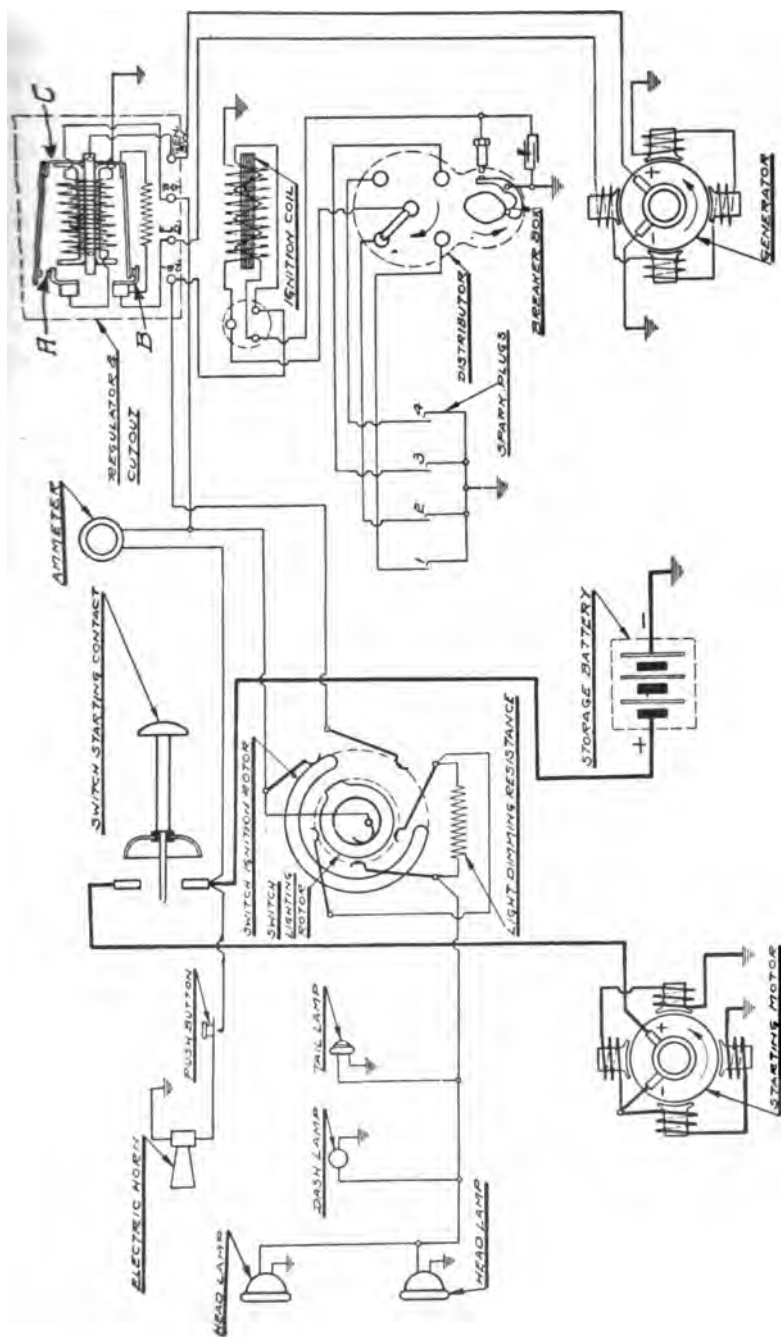
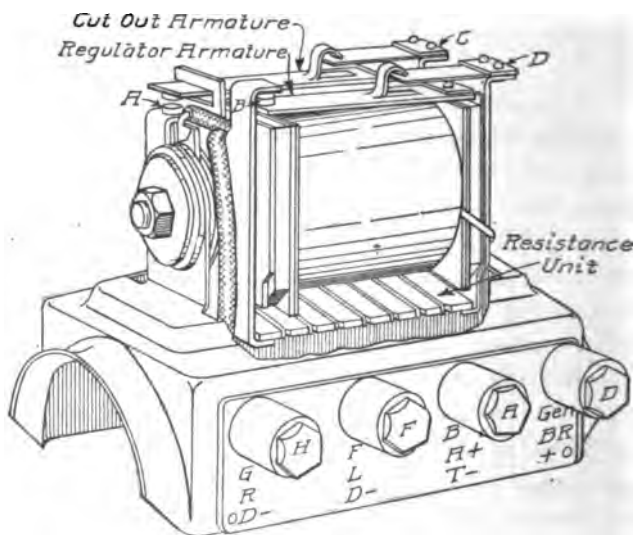

Fig. 291. Internal and External Wiring Diagram for Heinse-Springfield System on Regal Car
Fig. 292. Heinze-Springfield Current Regulator and Battery Cut-Out
**Generator.** The generator is of the multipolar shunt-wound type (four poles) with brushes spaced 90 degrees apart, bringing both on the left side of the commutator to make them more accessible. The negative, or lower, brush of the generator, Fig. 291, is grounded to the brush holder, which, in turn, is grounded on the generator brush head. From the positive, or upper, brush a wire runs to the terminal GEN. BR.+ of the regulator and cut-out, Fig. 292. From this terminal, the charging circuit leads to the cut-out contacts and through the latter and the series winding to the terminal BAT+ of the regulator cut-out. As the negative brush of the generator is grounded, the negative terminal of the battery and one side of all the lights are grounded. One end of the generator shunt field is grounded inside to the generator frame. The other end comes out through the hole provided for it in the brush head, runs to the terminal FLD of the regulator cut-out, and thence to the contacts of the current regulator if they are closed, or through a resistance if they are open.
is mounted directly on the starting motor, Fig. 292. The regulator side of the relay consists of two contacts *B*, which are normally held together by spring tension so that the charging current does not exceed 10 to 12 amperes. When the voltage rises above a certain value owing to the increased speed of the engine, the regulator armature is drawn down, separating the contacts, and the current must then pass through the resistance unit shown beneath the coil. This keeps the charging current down to the value mentioned.
To adjust the regulator and cut-out, first adjust the regulator side, as the cut-out is dependent upon the regulator adjustment. Before starting the engine, remove the regulator and the cut-out cover, then remove the wire to the terminal "BAT+" and insert an ammeter in the charging circuit at this point, though if there be an ammeter on the dash, it may be used. Start the engine and run it very slowly. See that the regulator contacts are together, Fig. 292. At a speed equivalent to 6 miles an hour or over, the cut-out contacts *A* should close, and with the contacts at *B* closed, the ammeter should show a reading of 4 amperes. If contacts *A* do not close at this point, there may be too much tension on the spring, which may be remedied by bending the spring-holding support upward at *C*. Should the ammeter reading go above 10 to 12 amperes as the speed increases, this is due to the contacts *B* of the regulator not opening as they should. The tension of the armature spring of the regulator should then be lessened by bending the spring-holding support slightly upward at *D*. Note very carefully as the engine speed is decreased that there is enough spring tension on the cut-out armature to open